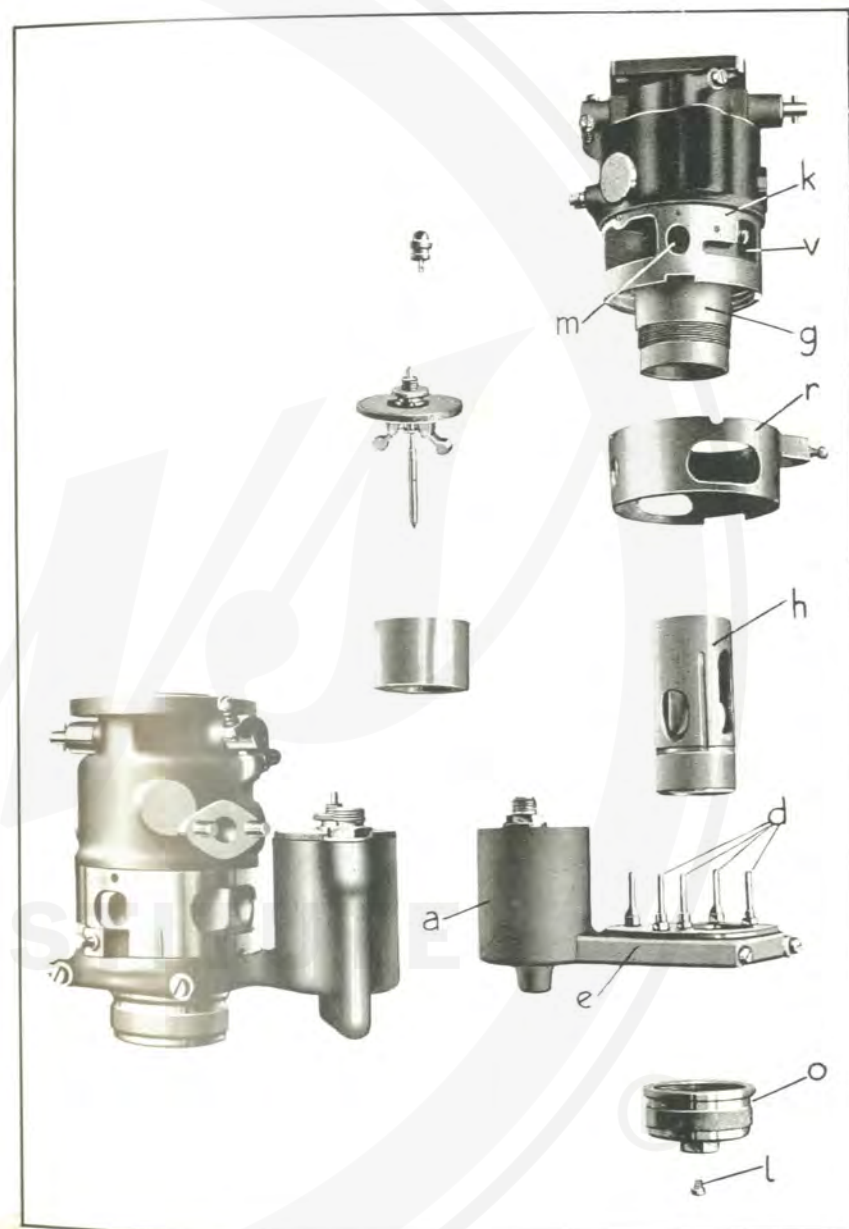

Fig. 8.
The carburettor, shown on Plate 2 and fig. 8 is a **Delage** instrument built under **Smith-Barriquand** licence.
3. **The slide** is dismounted after removing the jet carrier, the correcting ring (*r*) and the screw (*v*) (fig. 8). Before completely removing the screw, place the hand under the carburetter so as to catch the slide, which will fall by its own weight. When fitting again, care should be taken to see that the screw enters the groove before it is tightened up, otherwise a roughness will be formed along the edge of the slide, which will prevent it moving freely.